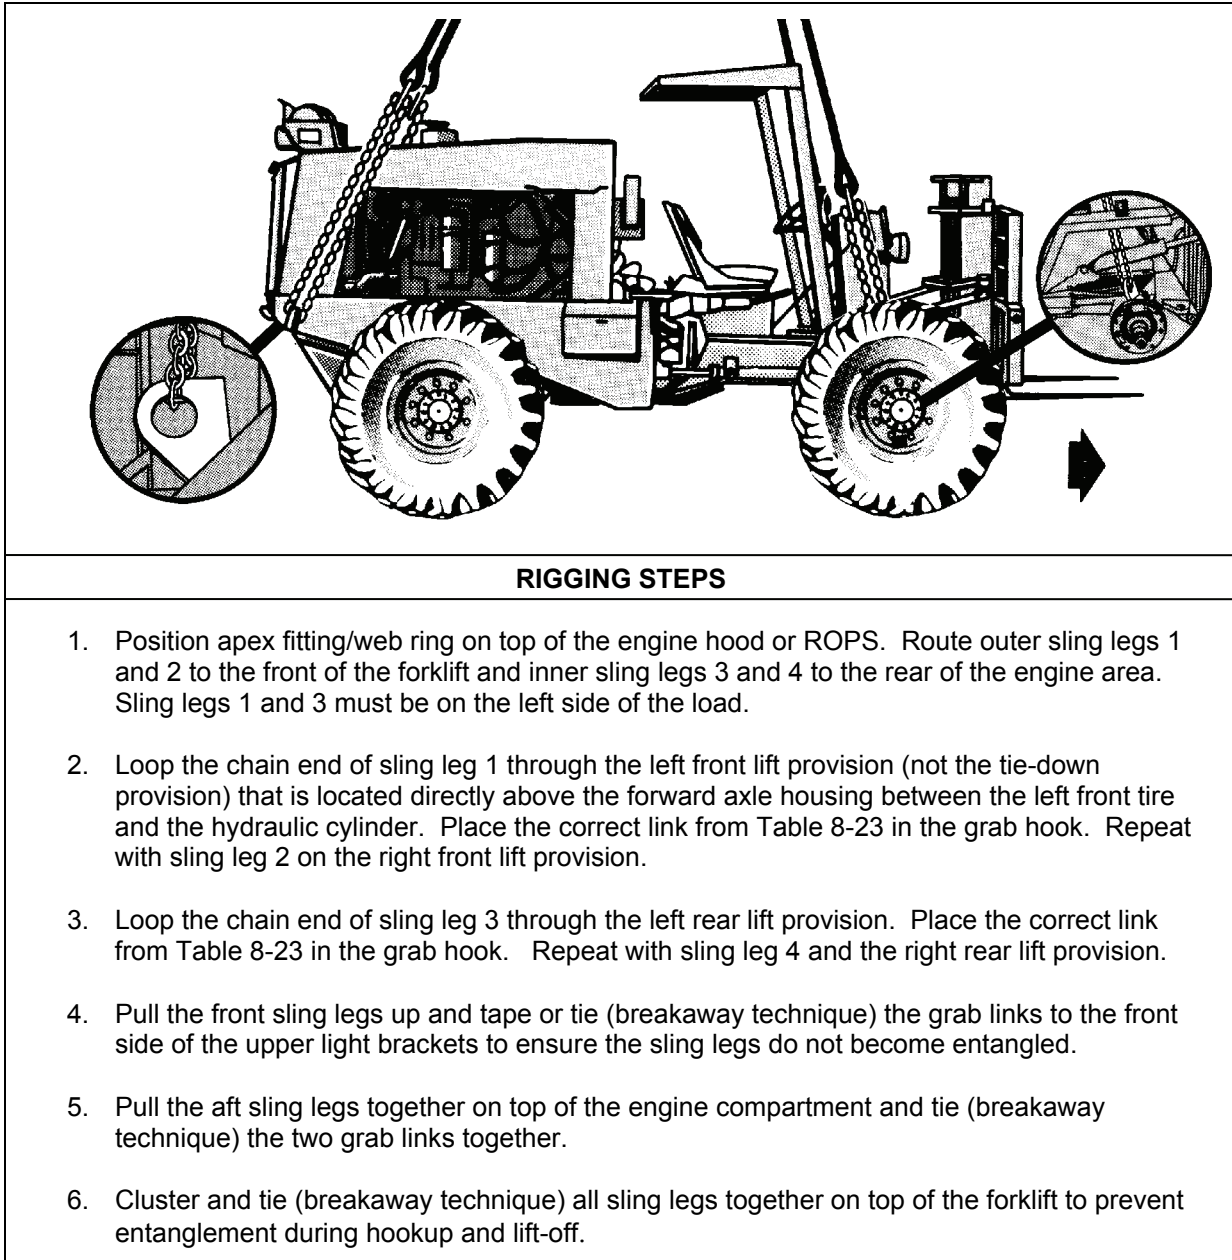

Figure 8-23. Truck, Forklift, MC-4000
- **Rigging.** Rig the load according to the steps in Figure 8-23.